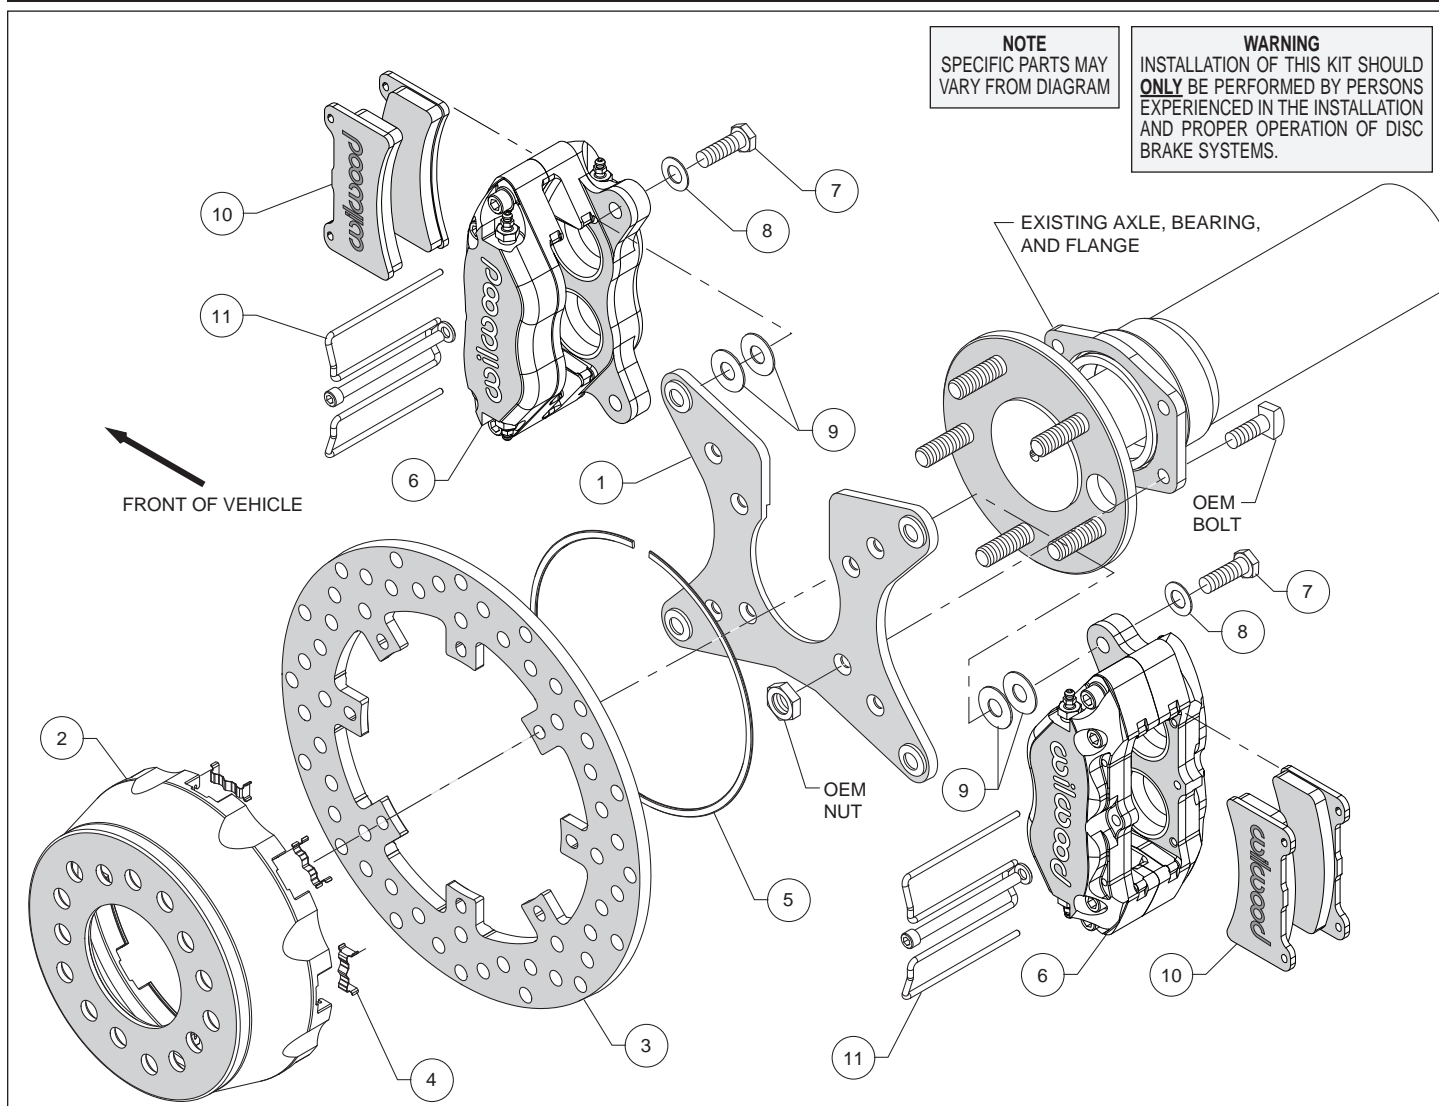
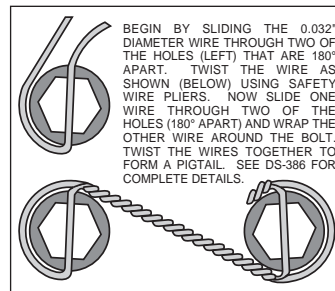
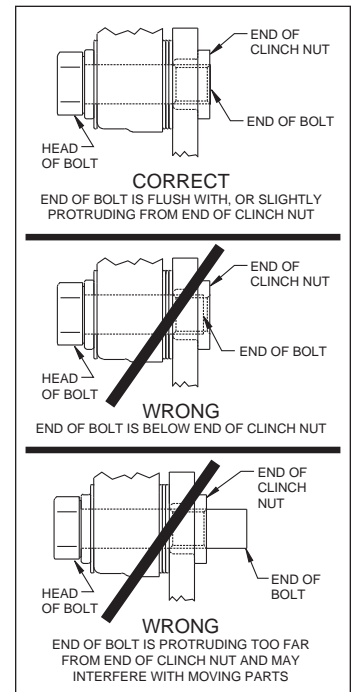

Figure 1. Typical Installation Configuration
Figure 4. Safety Wire Diagram
Figure 5. Clinch Nut Engagement Diagram
**Assembly Instructions** (numbers in parenthesis refer to the parts list and Figure 1 on the preceding pages): **CAUTION:** All mounting bolts must fully engage clinch nuts. Be sure to check that all bolts are either flush or protruding through flanged side of clinch nut after shimming, Figure 5.
- Install the caliper mounting bracket (1), with the slot for the axle pointing upward, to the housing flange using the OEM bolts and nuts, as shown in Figure 1 and Photo 1. Ensure that the caliper mounting ears on the bracket are oriented fore and aft on the car, with the heads of the clinch nuts facing outboard, Photo 1. Apply red *Loctite*® 271 to the OEM bolt threads and torque to OEM specifications.
- Insert the dynamic mount wear clips (4) into the slots in the hat (2) making sure the tabs snap in place, Photo 2. Orient the rotor (3) as shown in Figure 1 and Photo 3, with the flush mount tab side facing the hat. Attach the rotor to the hat using snap ring (5) by pushing down on the rotor and installing the ring into the groove in the hat, as shown in Photo 4. Ensure that the ring is fully engaged in the groove.
- NOTE:** Please reference the caution statement at the beginning of the assembly instructions. Mount one caliper (6) onto the mounting bracket (1) using bolts (7) and washers (8), as shown in Figure 1. Initially place two .035" thick shims (9) on each bolt between the caliper and the bracket, Photo 5. Temporarily tighten the mounting bolts and view the rotor (3) through the top opening of the caliper. The rotor should be centered in the caliper, Photo 6. If not, adjust the caliper by adding or subtracting shims between the bracket and the caliper. Always use the same amount of shims on each of the two mounting bolts. **NOTE:** The end of each bolt must be flush with or slightly protruding from the head of the clinch nut. If necessary, place spare shims between washer and caliper mounting ear to achieve the proper clinch nut engagement, as shown in Figure 5. Once the caliper alignment and clinch nut engagement are correct, remove the bolts one at a time, apply red *Loctite*® 271 to the threads, and torque to 40 ft-lb. For an added measure of security, the bolts may be safety wired using standard 0.032 inch diameter stainless steel safety wire as shown in Figure 4. Please refer to Wilwood's data sheet DS-386 (available at [www.wilwood.com/Pdf/DataSheets/ds386.pdf](http://www.wilwood.com/Pdf/DataSheets/ds386.pdf)) for complete safety wire installation instructions. Repeat this procedure for the second caliper.